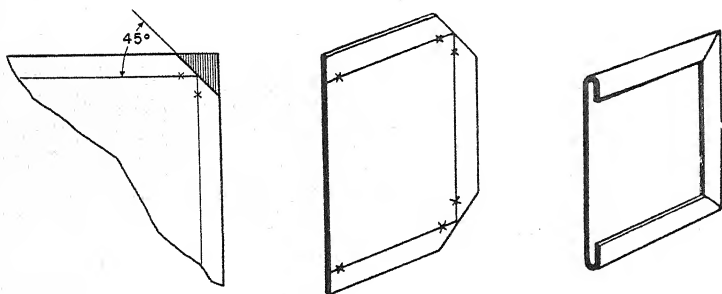

Figure 246. — Slant notch.
**SLANT NOTCHES** are cut at a  $45^\circ$  angle across the corner, when a single hem is to meet at a  $90^\circ$  angle. Figure 246 illustrates the steps in forming a slant notch.